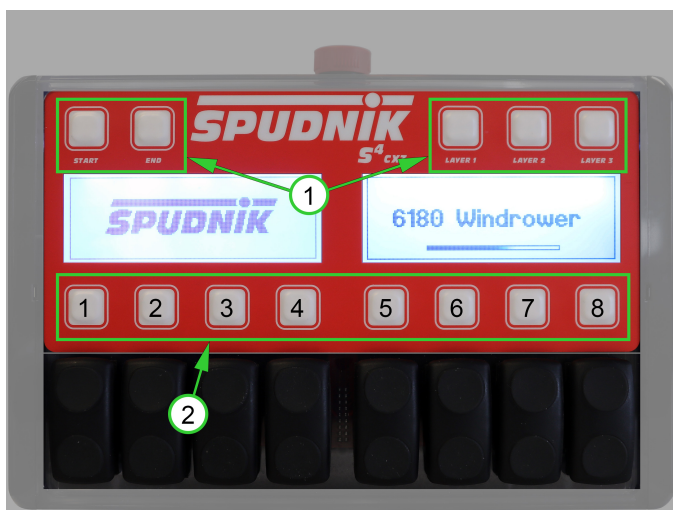

Figure 26
The CX3 has 13 physical soft keys arranged in two rows. The (1) top row are fixed function keys. The (2) bottom row are programmable function keys. Operation of the programmable keys changes depending on the function associated with the softkey. The function changes with the selected layer. (See Figure 26)